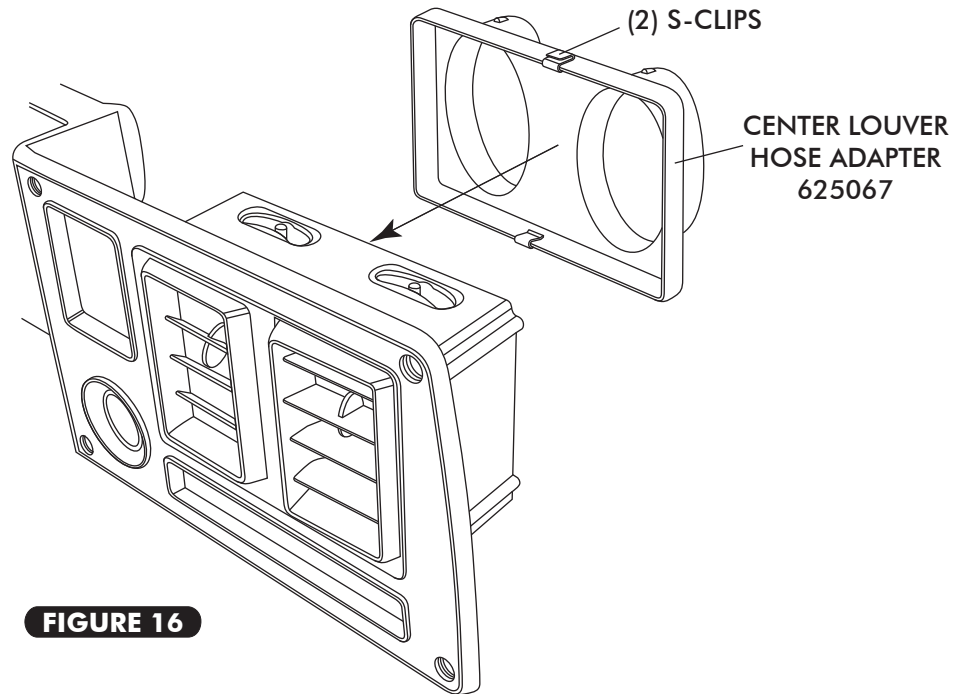

FIGURE 16
- ☐ INSTALL (2) S-CLIPS ON CENTER LOUVER HOSE ADAPTER (SEE FIGURE 16, BELOW).